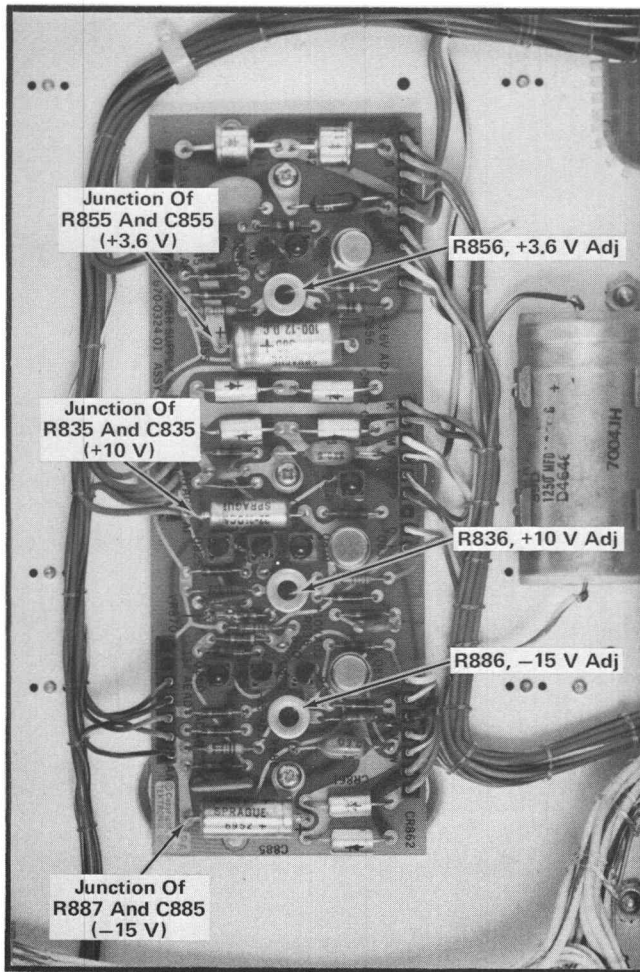

Fig. 6-1. Power Supply board adjustment and test point locations.
- a. Connect the precision DC Voltmeter between chassis ground and the junction of R887 and C885 (–15 volts), see Fig. 6-1.